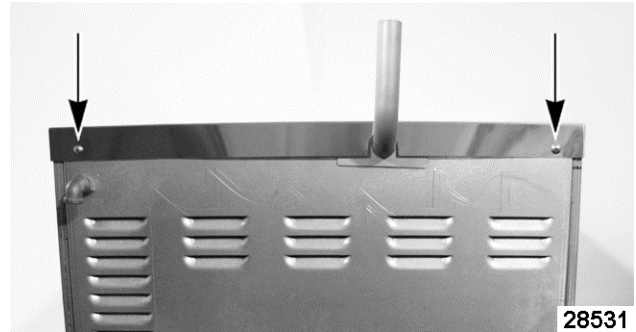

Fig. 3
1. Remove screws Fig. 3 (qty. 2) securing top cover to rear panel.